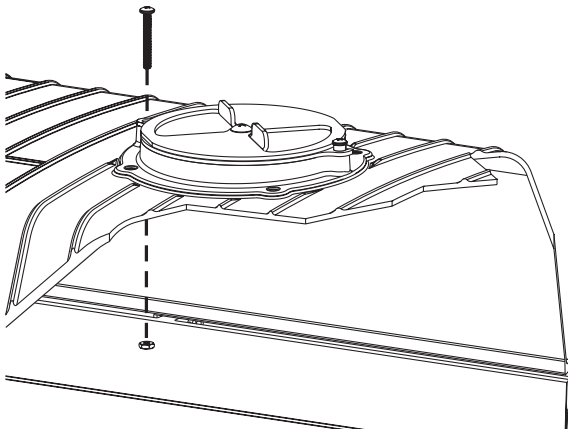

Figure 8
3. Place the smoke vent assembly on top vent opening and secure with one #10-24 x 1-1/4 pan-head screw and one #10-24 locknut on underside of grill body top. Do not tighten so much that the vent cannot swing open and close freely. Use hand tools. See Figure 8.